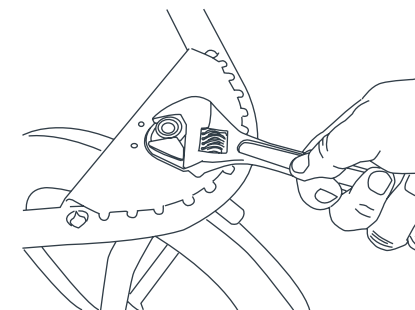

Fig. 21
- 21)** • If you experience front wheel wobble that is beyond what is normal for use while walking or jogging you may have to adjust the front wheel housing nut. This nut is located under the footrest located at the front of the jogger. You can use a standard crescent wrench to tighten the nut (Fig. 21).